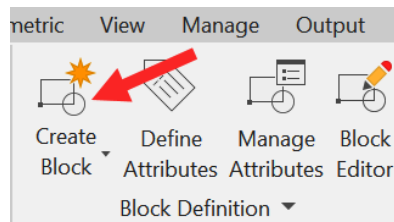

Figure 11.2: The Create Block (BLOCK) command on the Block Definition panel
1. Select the **Insert** tab on the ribbon with both objects selected. Then, click on **Create Block** (*BLOCK*) on the **Block Definition** panel, as shown in *Figure 11.2*.